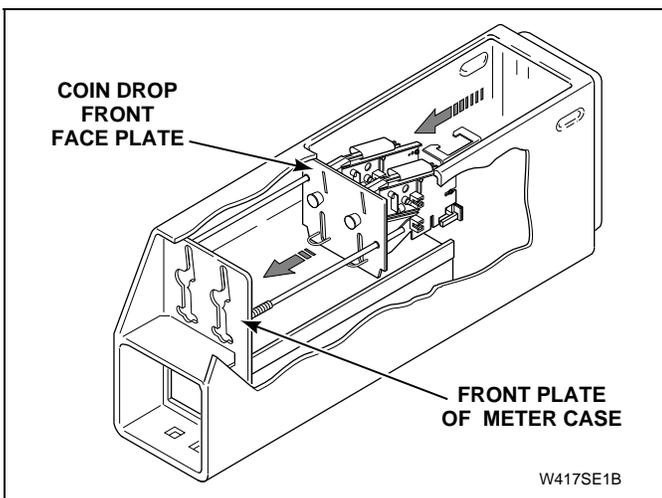

Figure 23
- (6.) Carefully slide coin drop forward into position, as shown in *Figure 23*. (Front face plate of coin drop should be secure against front plate of meter case.)